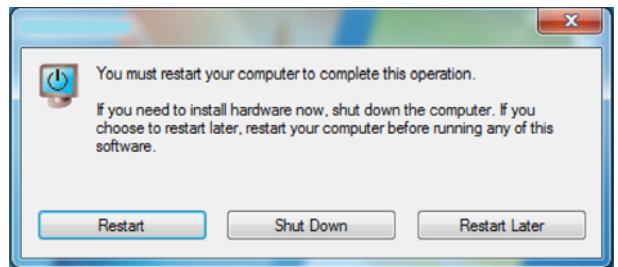

Figure 13. PC Restart Window
- SDP-B board drivers installation (see Figure 9 to Figure 13).
5. Restart the PC before using the evaluation board (see Figure 13).